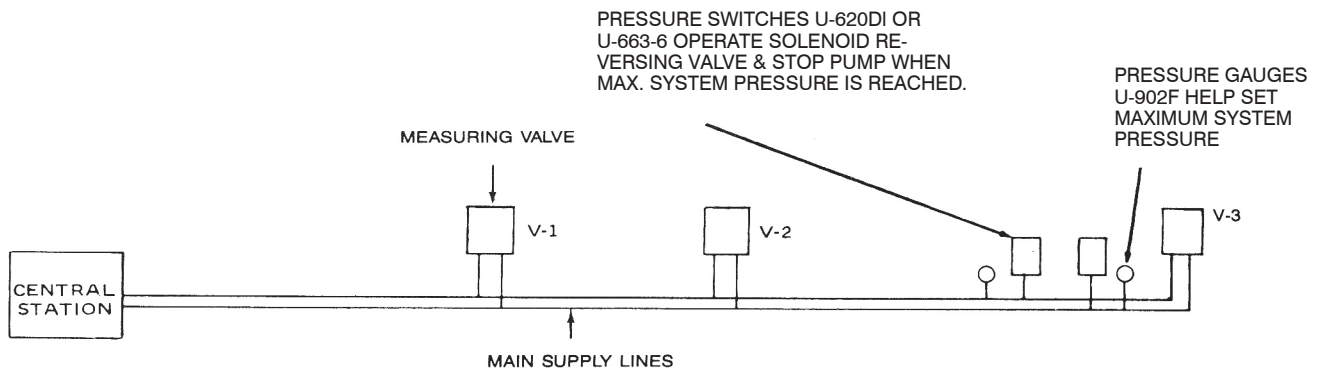

Fig. 2-DC41 System showing use of pressure switches.
**Pressure Control Switches (End-of-Line Systems with FR Reversing Valves)**-Can locate anywhere in the line. If there is more than one set of main supply lines, install switches in the set with greatest pressure drop (usually the longest) and in others with pressure drops of similar magnitude. See Fig. 2.